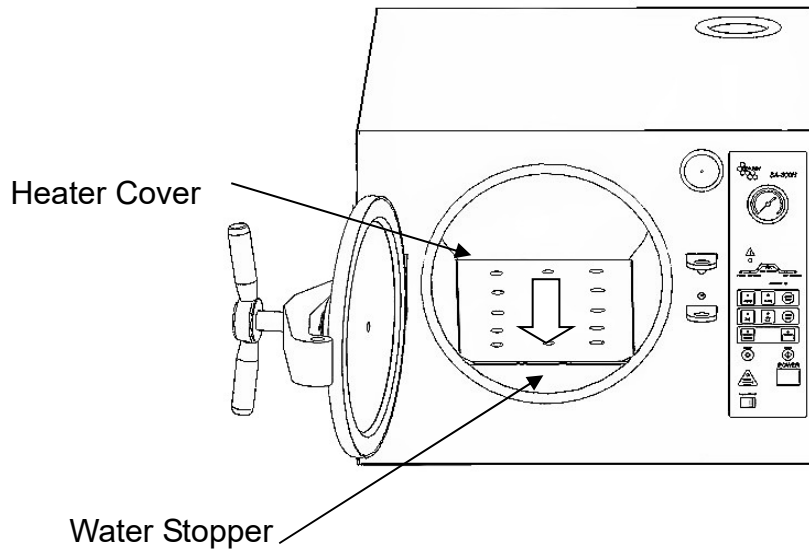

Figure 5 – Heater Cover
- B. Install the heater cover to the chamber as Figure 5 – Heater Cover (standard accessory)